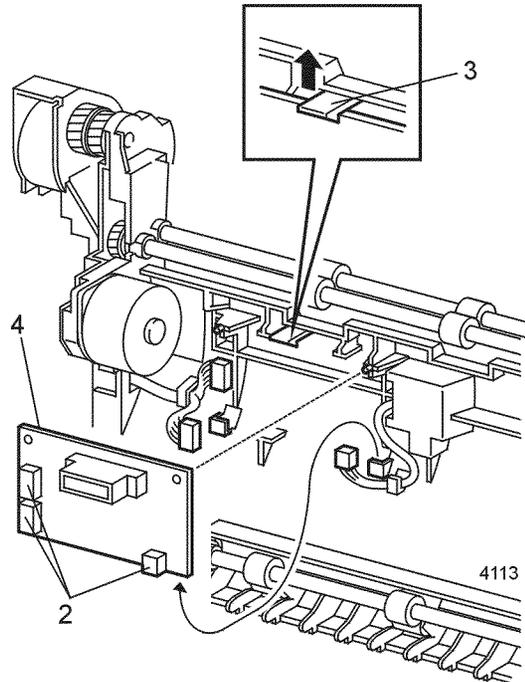

Figure 1 Duplex PWB
3. Push up on the locking tab and lift the Duplex PWB (Figure 1).
4. Remove the PWB (Figure 1).